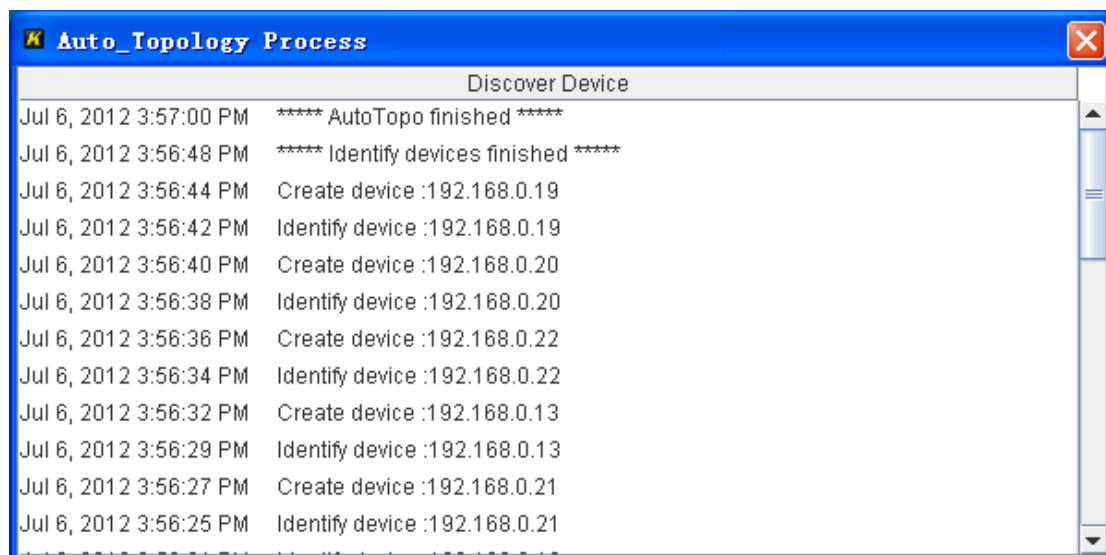

Figure 33 Auto-Topology Process
2. Select NetSegment and enter the start and end IP addresses. Click <OK>. The Auto\_Topology Process dialog box is displayed, as shown in Figure 33.